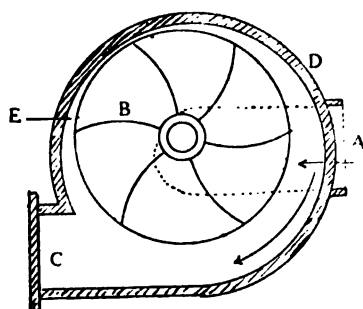

Fig. 9
Several forms of such pumps are in use, and some of these are shown in Figs. 9 and 10. Fig. 9 is a very simple rotary pump which is exactly like a small turbine water-wheel reversed. The water enters through A, and the revolving blades B throw it outward and force it through the opening C. You will notice that the wheel with the blades is not set exactly in the center of the case D, but a little to one side, so that the space at the outlet C is wider than just about it (E). If the space was of the same size all around, the wheel would revolve without forcing the water through the outlet, but as it reaches the narrow portion at E it cannot pass readily, and so rushes out through C.